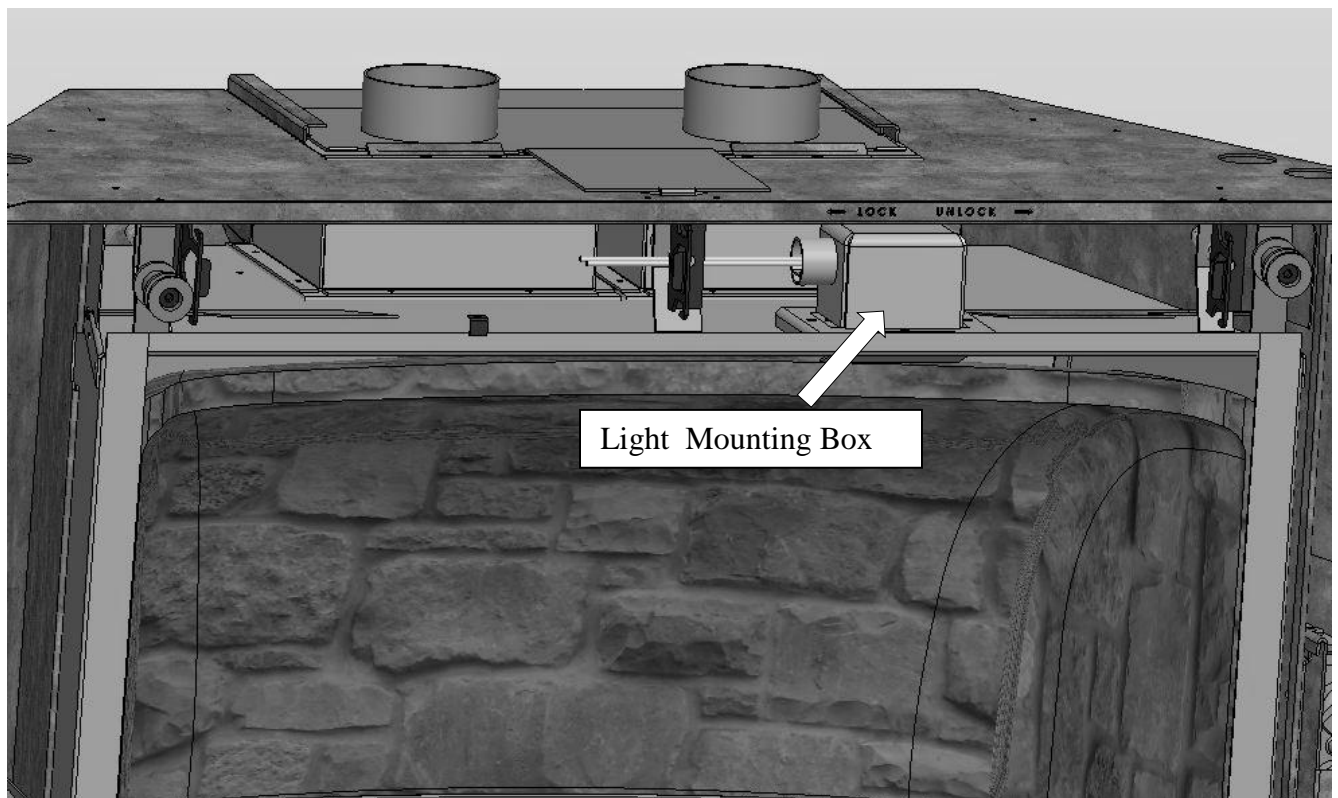

Figure 1
1. Locate the Light Socket Mounting Box above the firebox. (See Figure 1) Carefully slide the box slightly to the right to unlock it from its position. It should be free to lift up out of its track. **Be careful not to pull the box too far away as the light socket wires are still attached and will limit its movement.**